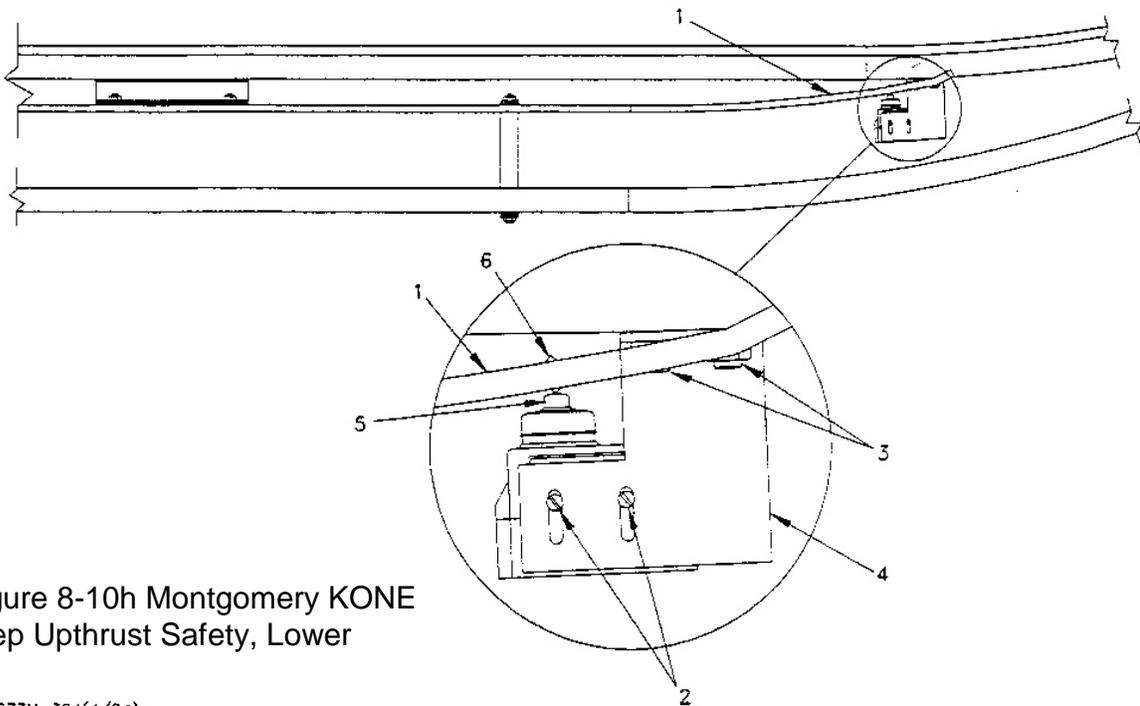

Figure 8-10h Montgomery KONE Step Upthrust Safety, Lower
- Perform adjusting procedures as described in figure 8-10g page 10 for the upper end and figure 8-10h page 11 for the lower end.